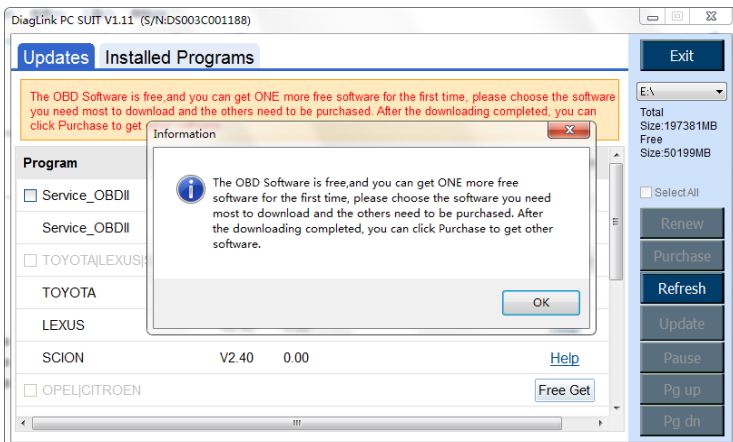

Figure 10.5
- 3) The program list will be automatically loaded. If you have never downloaded any software package, the **Updates** window will show as below (Figure 10.5).